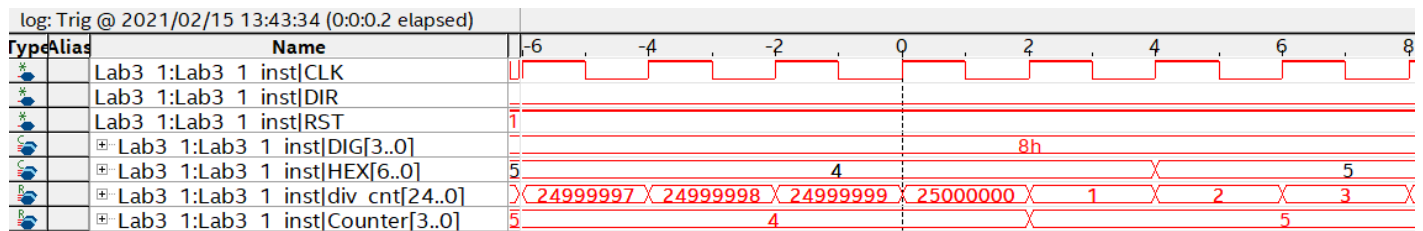

Figure 45
b. Zoom in to see waveform like on Figure 45.